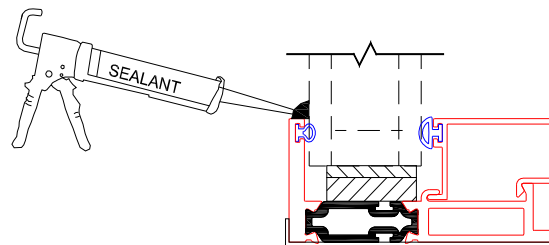

Figure 12:
2. After glazing, apply a continuous bead of sealant to the frame and glass (Figure 12).